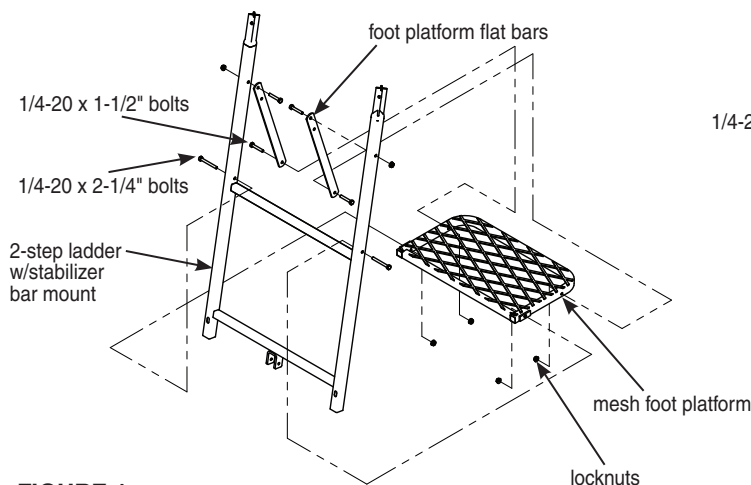

FIGURE 1
1. Attach the foot platform (1ML61), mesh side up, to the 2-step ladder section w/ stabilizer bar mount (SL64) using (2) provided 1/4-20 x 2-1/4" bolts and locknuts. **SEE FIGURE 1. DO NOT tighten all nut & bolt assemblies completely!**
2. Attach the foot platform flat bars (AL7) to the foot platform and to the inside of top ladder section side rails using (4) provided 1/4-20 x 1-1/2" bolts and locknuts. **SEE FIGURE 1.**